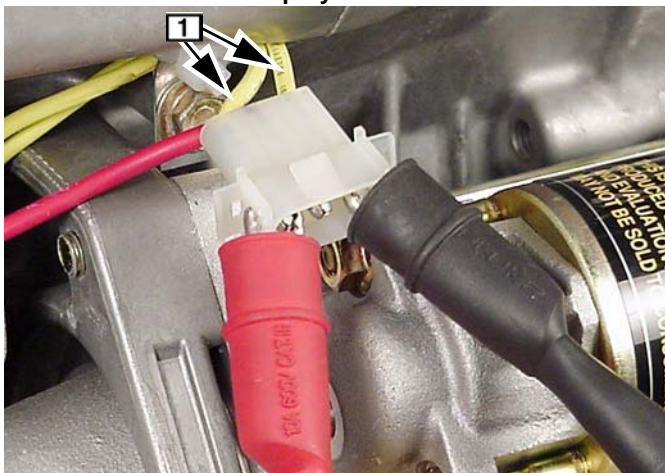

Fig. 30
4. Attach **RED** and **BLACK** test lead probes to AC output terminals in white connector (yellow wires) **1**, Fig. 30. (Meter test clip leads may be attached to either AC output terminal.)